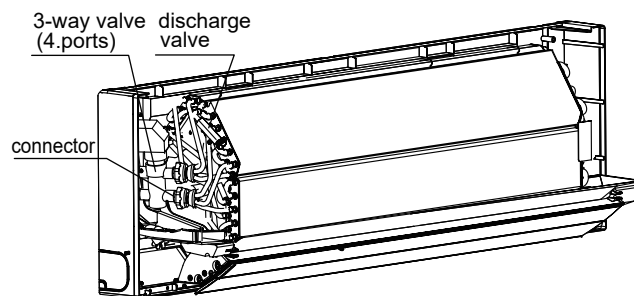

Fig.7-1
- 1 Take out the panel,then dismantle the display cover plate.(Refer to Fig 7-1)